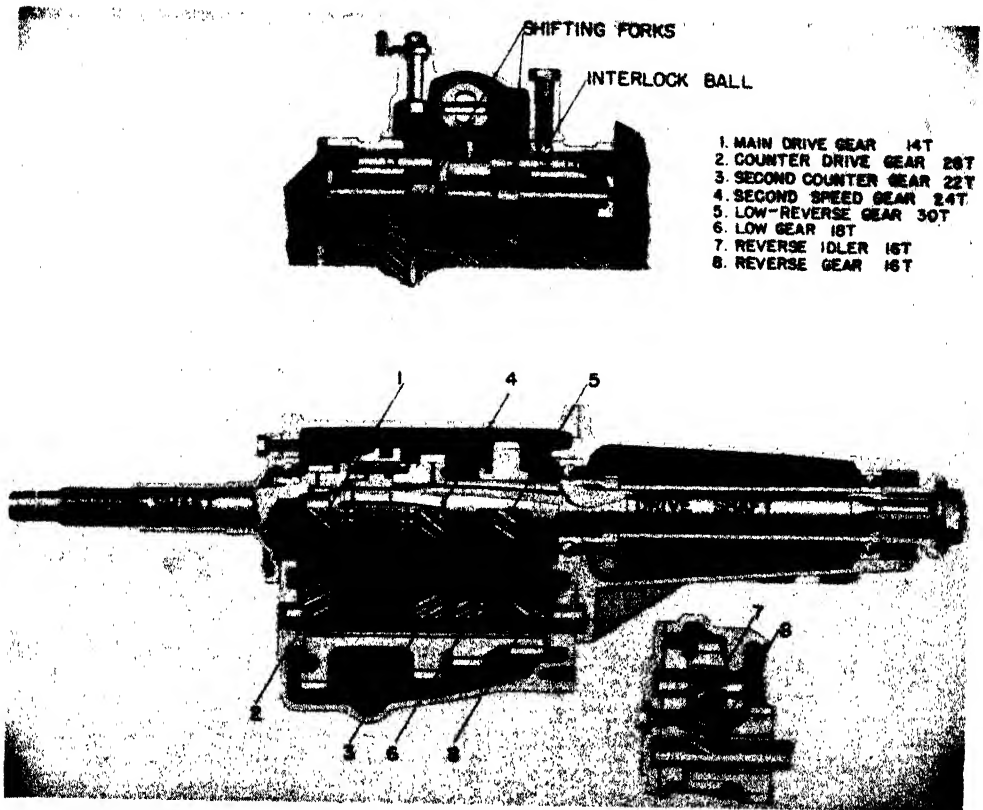

FIG. 142. SYNCHROMESH TRANSMISSION (Courtesy, Chrysler Corporation.)
7. Fig. 142 shows the synchromesh transmission of a modern automobile.